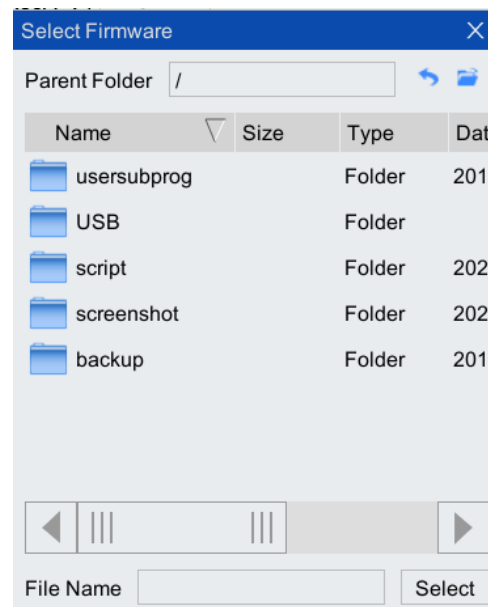

Figure 8-45 "Select firmware" interface
Step2.Select "System> System and Update> Firmware Upgrade" option to pop up "Select Firmware" dialog box in Figure 8-45, find the path where MF firmware upgrade file is located and highlight the upgrade file, and click <Select> button.